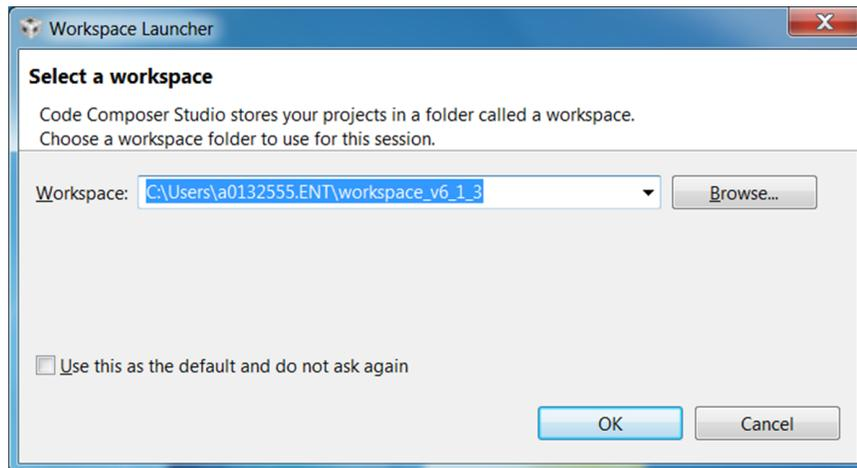

Figure 21. Workspace Selection
- Step 2. Select the location and name of the workspace. The location and naming convention can be changed. (see Figure 21).